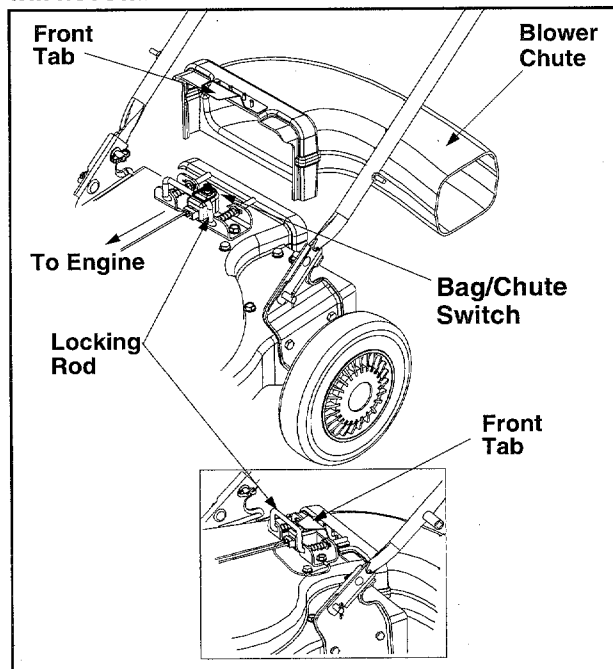

Figure 5
See Figure 5
- Grasp blower chute with one hand and pull lock rod on mounting bracket with other hand toward engine to release. Refer to Figure 5.